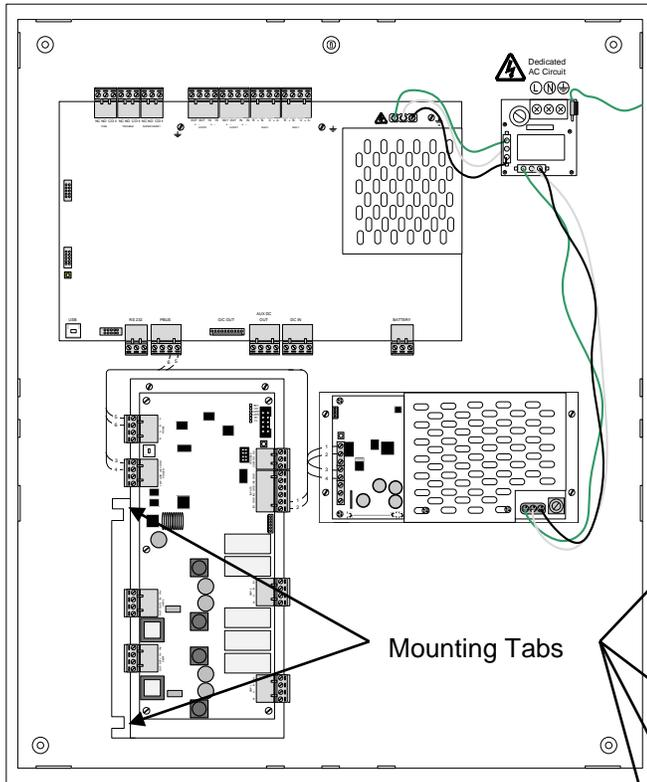

Figure 25 - NX-CC[x]-16 or NX-CC01-BB Back Box
The microphone bus or remote microphone bus NX-AMP-80 amplifier is mounted below the NX-FACP base card on the left side of the NX-CC01-BB-BB and NX-CC02-BB-BB back box (see figure 25 and 26). In addition, a programmable microphone or remote microphone bus amplifier is pre-mounted in the NX-FACC-1 command center in the same location as the NX-CC01-BB-BB back box.
back box, below the NX-FACP base card (see figures 25 and 26). Secure the top end of the NX-AMP-80 mounting plate to the back box standoffs with the provided two (2) screws.